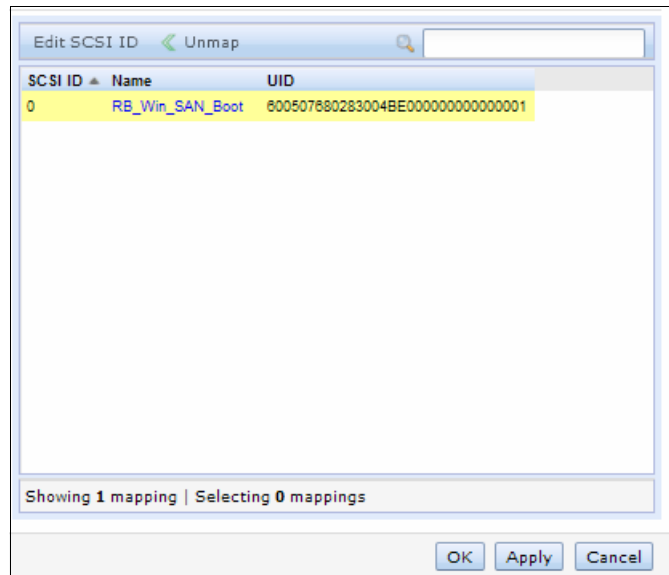

Figure 5-34 Add WWPN
3. Add the desired WWPN to the right pane by clicking the right-arrow icon. Click **Apply**, as shown in Figure 5-34.